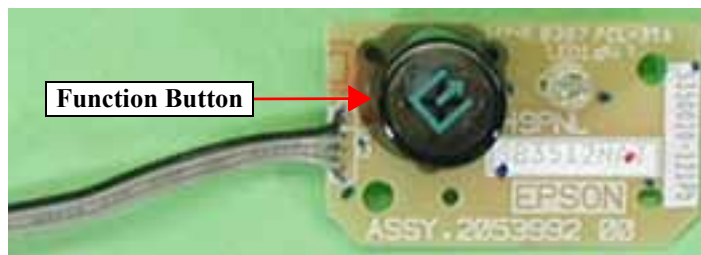

Figure 4-11. Installation of Function Button
- After installing the Function Button on the Panel Board in the orientation shown in Figure 4-11, install the Panel Board on the Upper Housing.